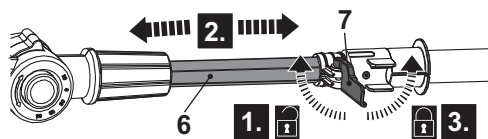

Fig. 10
- Loosen the locking lever (7) (Fig. 10, step 1).
- Adjust to the required length by pulling out or pushing in the pole extension (6) (Fig. 10, step 2).
- Secure the position of pole extension (6) by fastening the locking lever (7) back to its original position (Fig. 10, step 3).